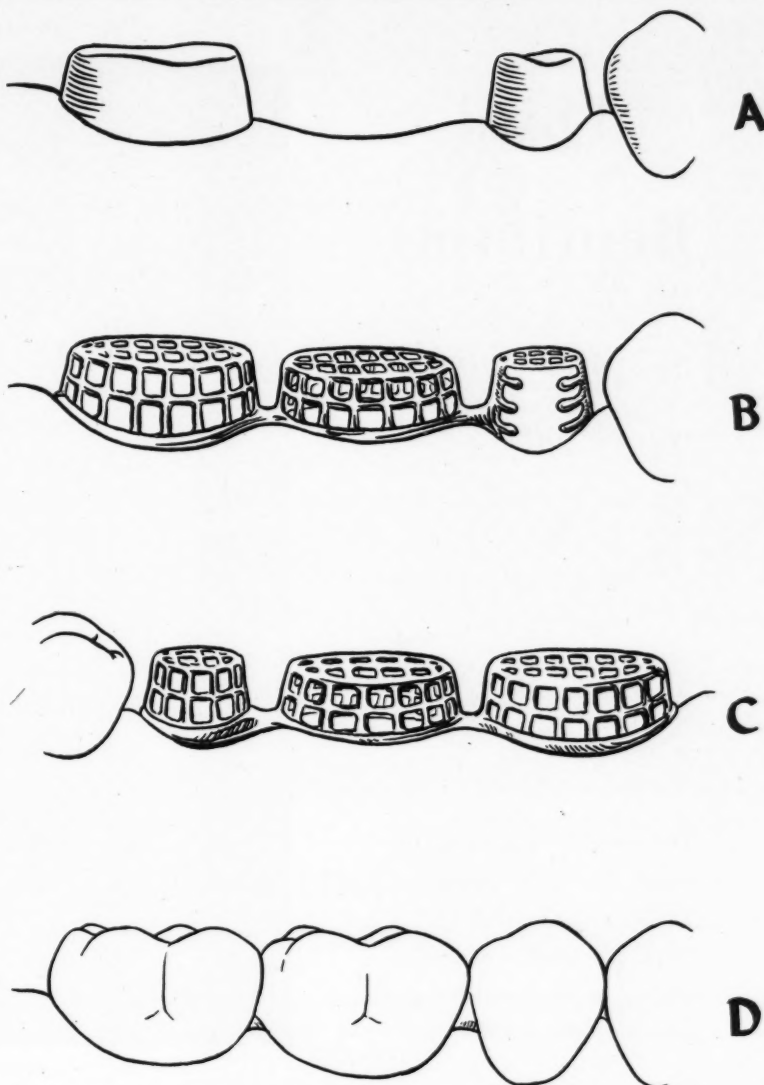

Fig. 14—(A) Lower posterior tooth preparations; (B) buccal view of mesh thimbles and mesh pontic; (C) lingual view; (D) finished restoration.
1. If crowns are to be used, wax up Williams mesh over the tooth preparations (Fig. 14), add a little extra wax around the gingival collar. Remove, and cast. Try both in the mouth.
4. Build a mesh tube over this as described before (Fig. 14), and cast the reinforcement.